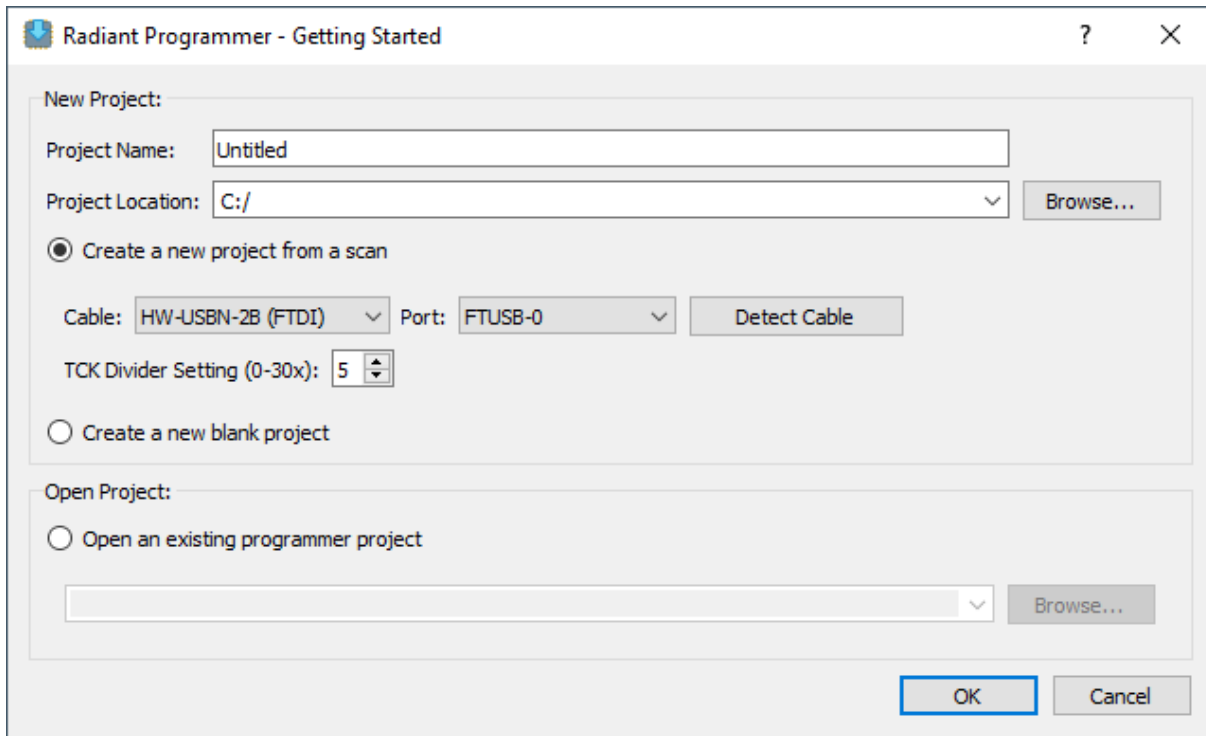

Figure 5.1. Radiant Programmer – Getting Started Window
3. Radiant Programmer – Getting Started window opens (Figure 5.1).